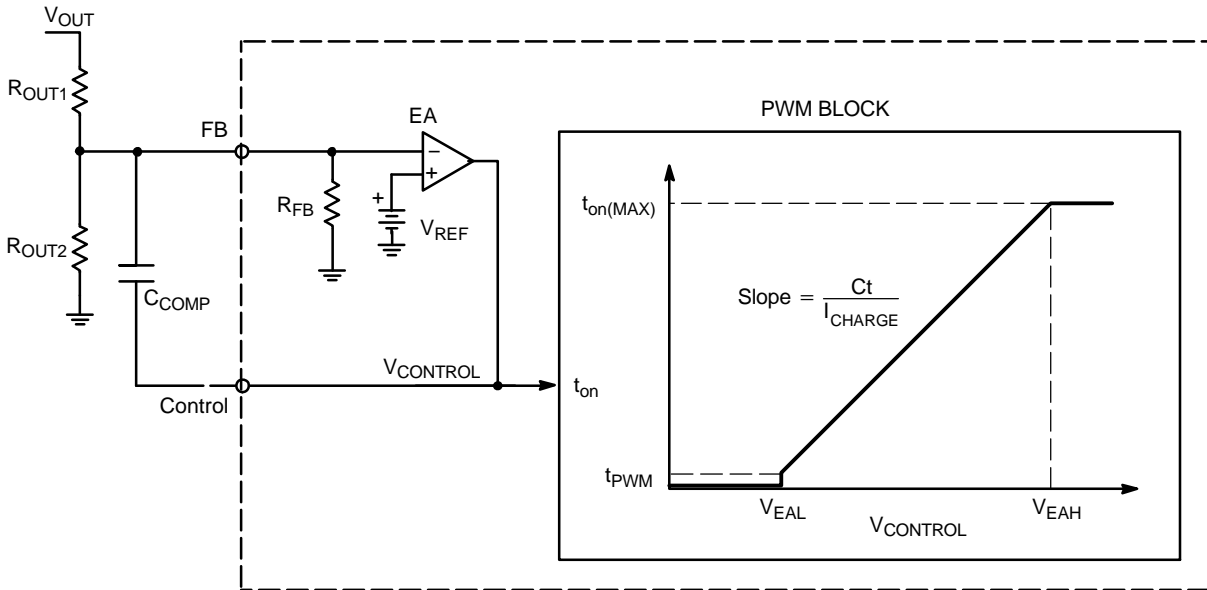

Figure 25. Error Amplifier and On Time Regulation Circuits
The NCP1607 is configured to regulate the boost output voltage based on its built in error amplifier (EA). The error amplifier’s negative terminal is pinned out to FB, the positive terminal is tied to a  $2.5V \pm 1.6\%$  reference, and the output is pinned out to Control (Figure 25).